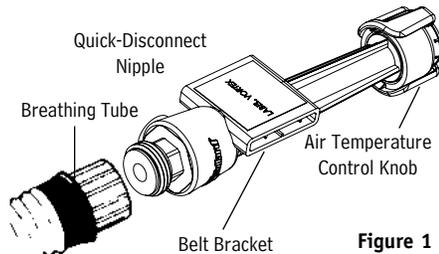

Figure 1
1. In an uncontaminated atmosphere screw the black connector on the end of the breathing tube to the fitting on the CT. Tighten hose connectors firmly (**Figure 1**).
6. To obtain cooler air, turn the air temperature control knob counterclockwise (**Figure 1**).